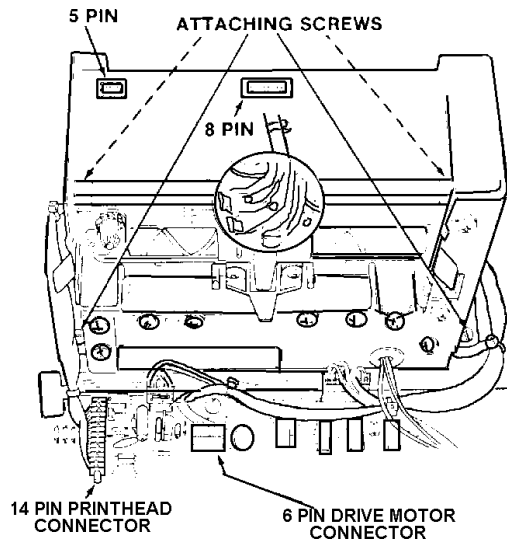

Figure 31. Printer Mechanism Replacement.
- c). Remove the two connectors (8 and 5 pin) from the Printer PCB (See Figure 31). Cut the cable ties that bundle these wires to the head solenoid wires.
- d). Remove the connector (6 pin) running from the drive motor to the Logic PCB at the PCB, and cut the cable ties bundling it to the printer PC board wires (See Figure 31).
- e). Remove the head solenoid connector (14 pin) at the Logic PC board (See Figure 31).
- f). Remove the four screws attaching the printer mechanism to the chassis standoffs and lift the printer mechanism out of the chassis (See Figure 31).